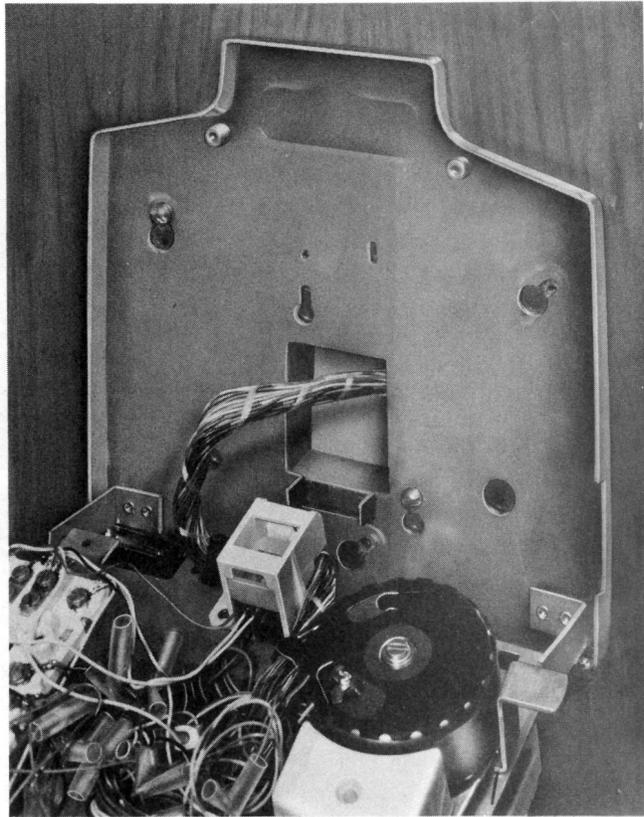

Fig. 9—Inside Wiring Cable, from Outlet Box (Early Version)
- (1) Remove cable sheath to surface of outlet box (Fig. 9) or for exposed wiring remove sheath